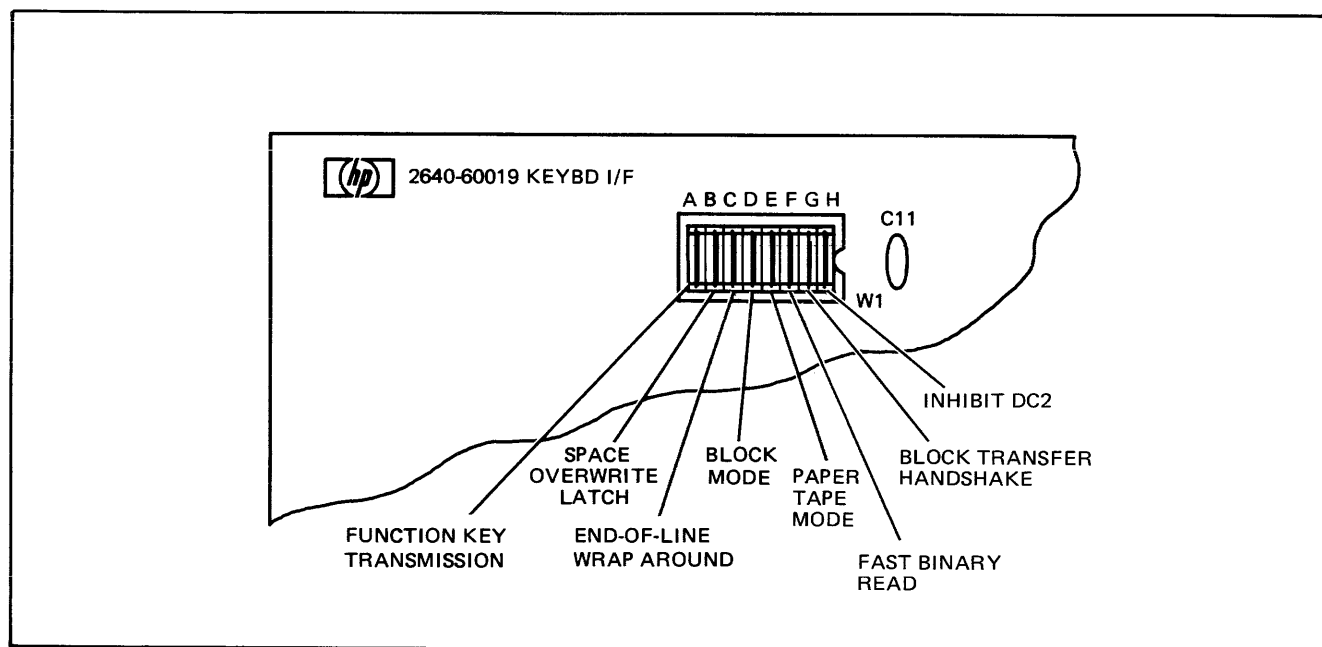

Figure 1-8. Keyboard Interface PCA Jumper Identifications
- c. Using figure 1-8 as a guide, remove applicable jumper(s) from Keyboard Interface PCA jumper socket. Retain removed jumper(s) for possible future use.